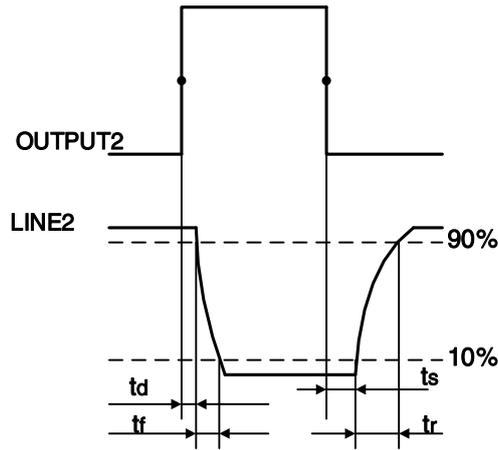

Figure 7-28 Parameter of Line2 output circuit
- Rising time delay =  $t_r+t_d$ :  $<20\mu\text{s}$  ( $0^{\circ}\text{C}\sim 45^{\circ}\text{C}$ ) (parameter description as shown in Figure 7-28)
- Falling time delay =  $t_s+t_f$ :  $<20\mu\text{s}$  ( $0^{\circ}\text{C}\sim 45^{\circ}\text{C}$ ) (parameter description as shown in Figure 7-28)